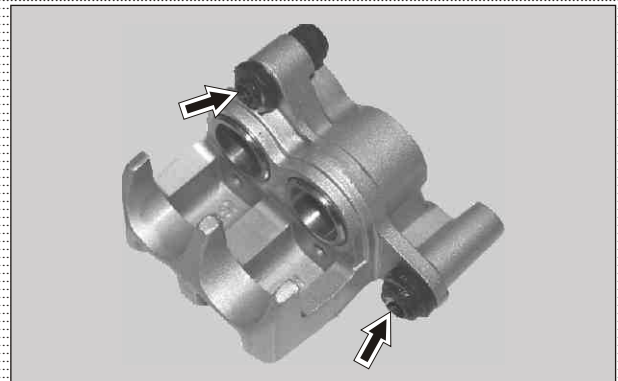

Fig. 6.20
- Carefully pull out boots from the caliper assembly housing. (Fig. 6.20)